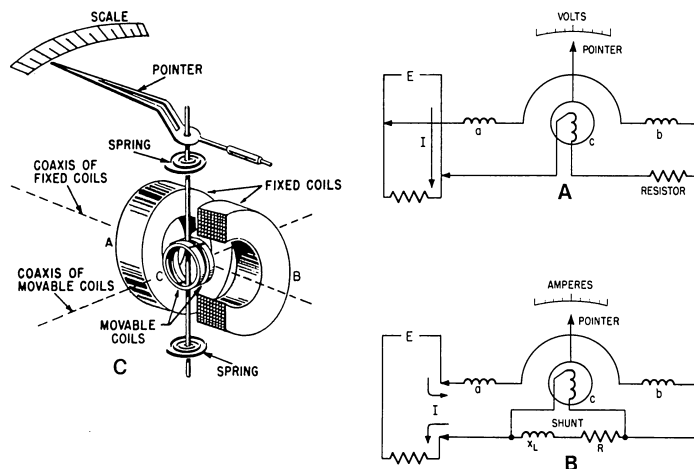

Fig. I-29 Electrodynamicometer: (A) Circuit when used as a voltmeter; (B) circuit when used as ammeter; (C) internal construction.
- **Electrodynamometer.** The electrodynamicometer type of meter uses no permanent magnet. Two fixed coils produce the magnetic field. The meter also uses two moving coils. This meter can be used as a voltmeter or an ammeter (Fig. I-29). It is not as sensitive as the D'Arsonval meter movement.